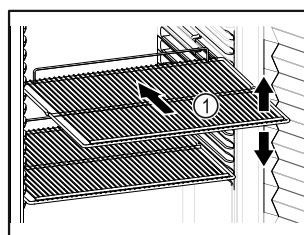

Fig. 47 Example illustration
- If there are adjustable shelves *Fig. 47 (1)*, position them as required.